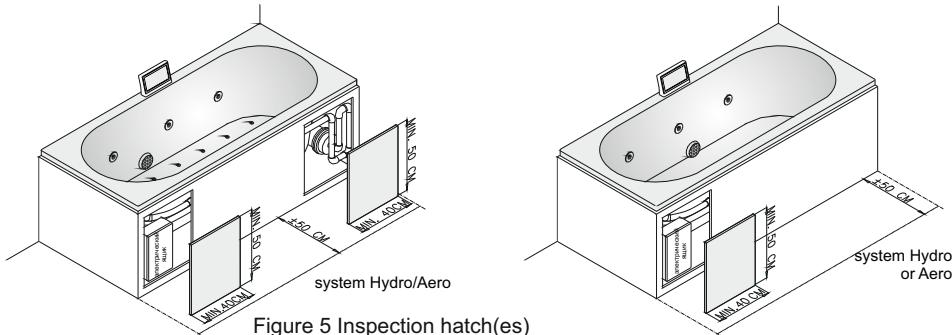

Figure 5 Inspection hatch(es)
- Inspection hatch(es) of at least 40 x 50cm for service access (at least to the motors). In front of the openings, a space of at least 50 cm width must be freely accessible for access to the technique - see Figure 5. Riho recommends that an inspection hatch should be placed near the overflow opening.
To enable maintenance the tub panel or wall must be fitted with a splash-proof hatch with a size of at least 40x50cm. Such an opening must be located close to each engine and heater. In front of the openings, a space of at least 50 cm wide for access to the technology must be freely accessible. See figure 5. See the RIHO Technical Catalog for the exact position of the holes. The Riho maintenance service cannot service the motors if there are no inspection hatches or if the hatches are too small. For the best accessibility to the system Riho advises you use cover front panels (if available for the bath type).